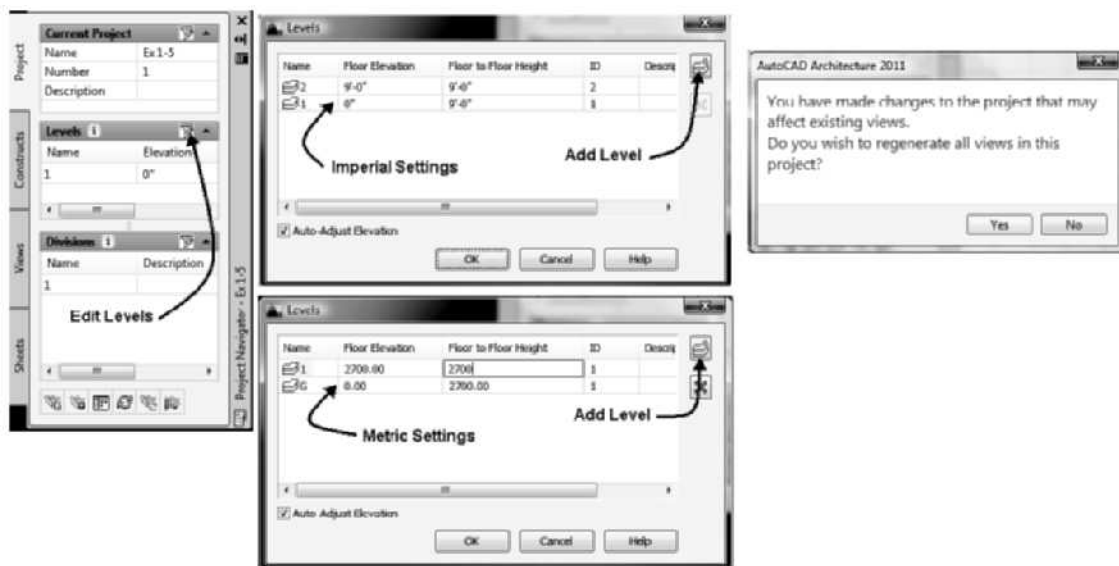

FIGURE 1.85 Defining levels for the project
- Select the **Project** tab of the Project Navigator and choose **Edit Levels** as shown in Figure 1.85. Click on the edit fields to edit level 1 as follows: Name = **1 [G]**, Floor Elevation = **0**, Floor to Floor Height = **9' [2700]**. Verify that the **Auto-Adjust Elevation** checkbox is checked.
- To create an additional level, click the **Add Level** button, as shown in Figure 1.85. Edit the properties of level 2 as follows: Name = **2 [I]**, Floor Elevation = **9' [2700]**, and Floor to Floor Height = **9' [2700]**. Click **OK** to dismiss the Levels dialog box.